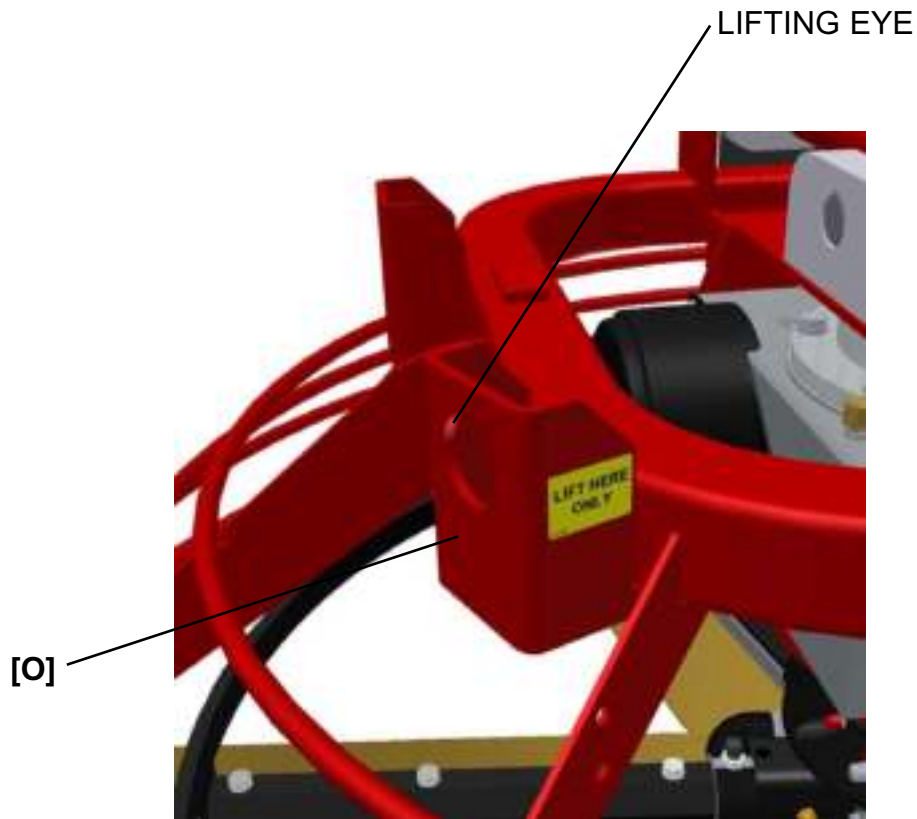

FIGURE 3.7.7
*The dolly jack lifting system is designed for short moves and to aid in servicing the trowel. It is not a substitute for a towing system or trailer. A lifting bridle **[N]** is included and is the recommended method of lifting the trowel. Attach the bridle to each of the four lifting eyes **[O]** on the trowel. Refer to Figure 3.7.7.*